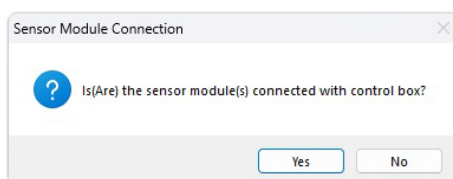

Figure 22. Select RS485 from the drop down menu
2. Next, click "Yes" button as in Figure 22.